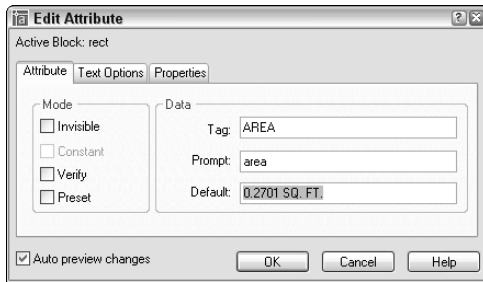

Figure 18-21: The Edit Attribute dialog box.
- ♦ **Edit the attributes, including prompt, default, text display, and properties.** Click **Edit** to open the Edit Attribute dialog box, shown in Figure 18-21.